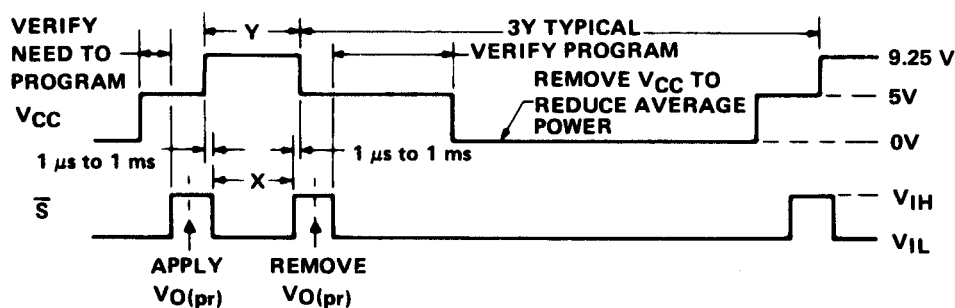

FIGURE 2 – VOLTAGE WAVEFORMS FOR PROGRAMMING
6. Apply a low-logic-level voltage to the chip-select input(s). This should occur between 1 μs and 1 ms after V_{CC} has reached its 9.25 level. See programming sequence of Figure 2.